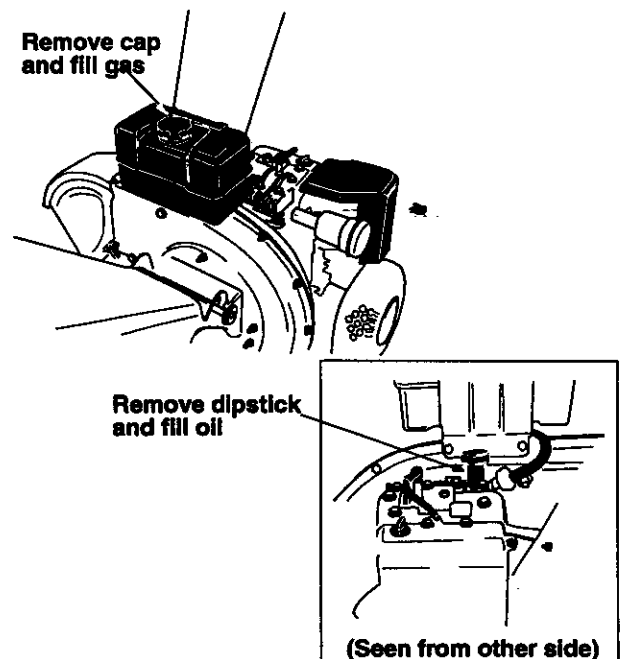

Figure 11
- Remove oil fill dipstick. See Figure 11.
- Fill fuel tank with clean, fresh, lead-free automotive gasoline. DO NOT use Ethyl or high octane gasoline. See Figure 11. Replace fuel cap.